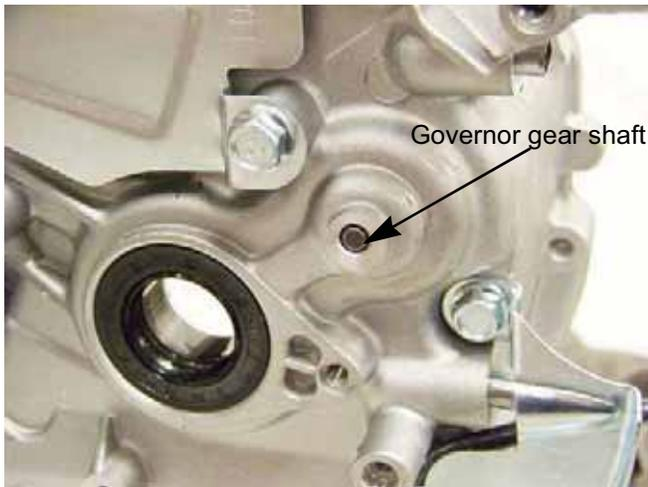

Figure 4.41
5. Drive out the governor gear shaft using a 5/32" pin punch. See Figure 4.41.